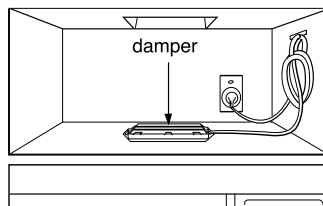

Figure 34
5. Roof venting installation: See Figure 34.